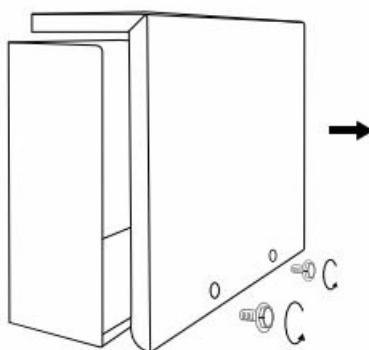

Figure 1
2. Remove the metal cover with a screwdriver(Not included), and take out the mounting bracket, screws and anchors inside. (Figure 1)